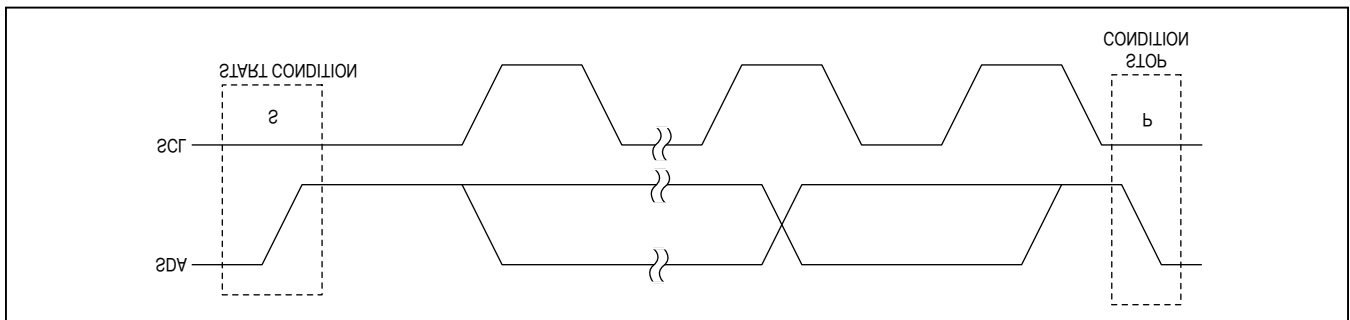
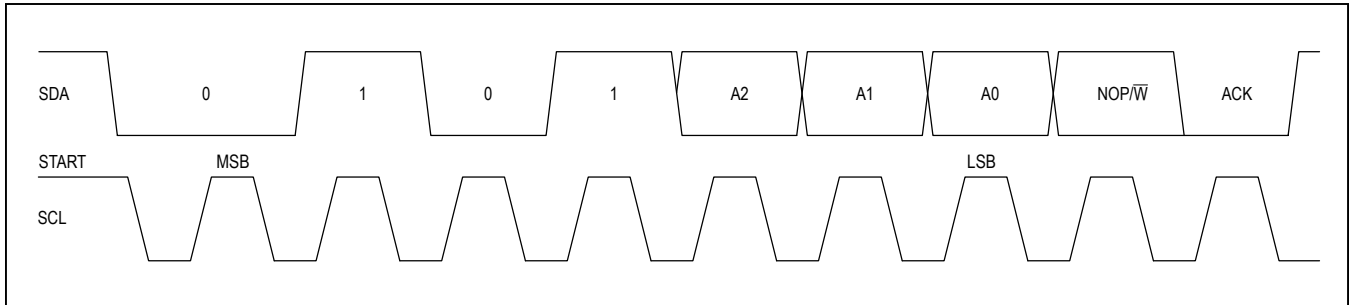

Figure 3. START and STOP Conditions
Figure 6. Slave Address
Each transmission consists of a START (S) condition (Figure 3) sent by a master, followed by the MAX5387 7-bit slave address plus the NOP/̄W bit (Figure 6), 1 command byte and 1 data byte, and finally a STOP (P) condition (Figure 3).
The MAX5387 includes a 7-bit slave address (Figure 6). The 8th bit following the 7th bit of the slave address is the NOP/ $\bar{W}$  bit. Set the NOP/ $\bar{W}$  bit low for a write command and high for a no-operation command. The device does not support readback.